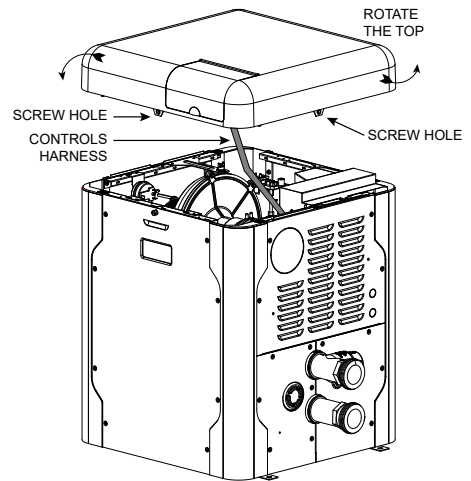

Figure 34. Heater Top Removal
To rotate the top, remove the (2) knurled screws holding the jacket top to the heater as shown below. Rotate the top to the desired position and reinstall the knurled screws to retain the jacket top. See **Figure 34** on page 27.
1. Remove the knurled screws from front and rear door. See Figure 34.